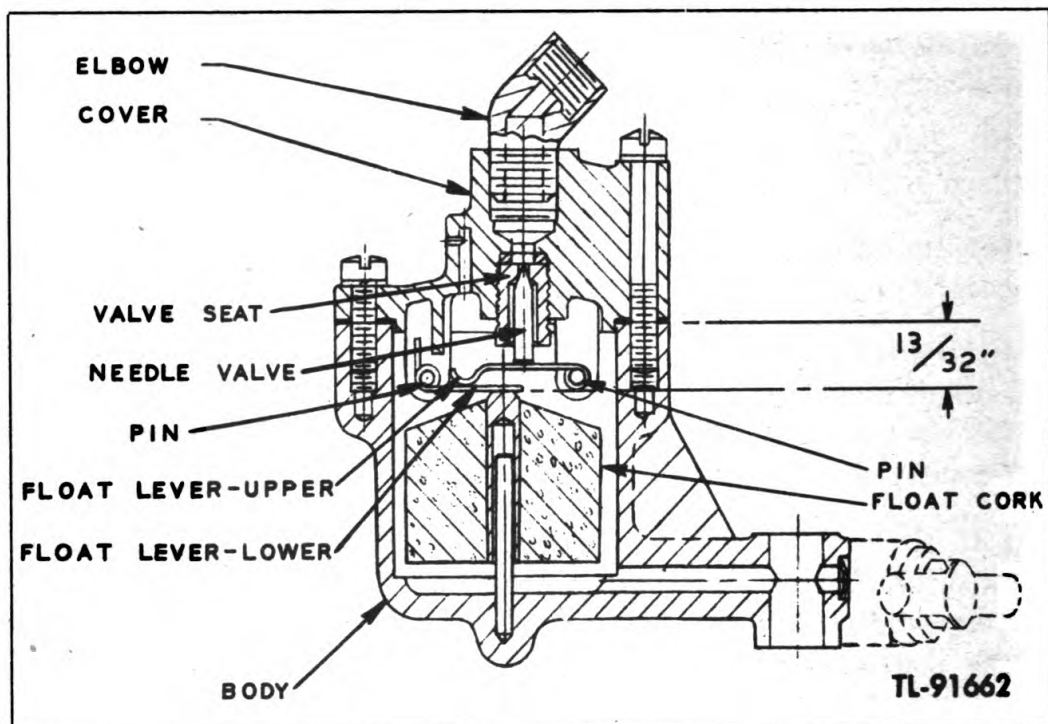
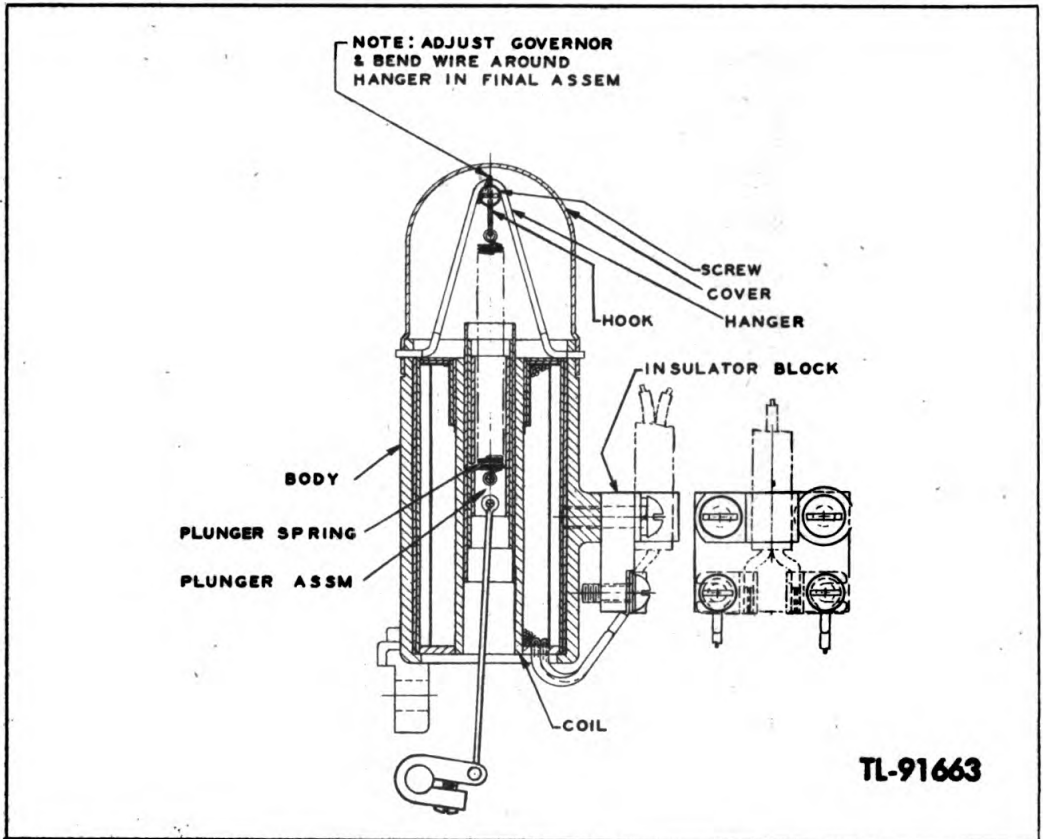

Figure 14. Carburetor float assembly
Figure 15. Electric governor assembly
(5) If the engine floods easily when starting and is not over-choked, or if it is not possible to adjust the carburetor for satisfactory engine performance, the difficulty may be caused by a faulty float needle valve, needle valve seat, or float cork. If any of these mentioned parts are not functioning properly, the level of the fuel in the float bowl will be too high, permitting the fuel to flow into the air bleed chamber. Figure 14 shows the position of parts constituting the float assembly. To determine if the needle valve and seat are seating properly and the float levers are not bent too high or too low, the distance from the lower lever to the face of the float bowl where the gasket is located should measure $13/32$ inch, as shown in figure 14.
(6) If a new float is installed, make certain it moves up and down freely on the float bowl pin.
(7) The needle valve seat is replaceable by unscrewing it from the float bowl cover.
k. Electric governor. (1) No adjustments should be necessary to the governor (fig. 15) unless the plunger return spring is replaced, as it is correctly set for the requirements of the unit at the factory.